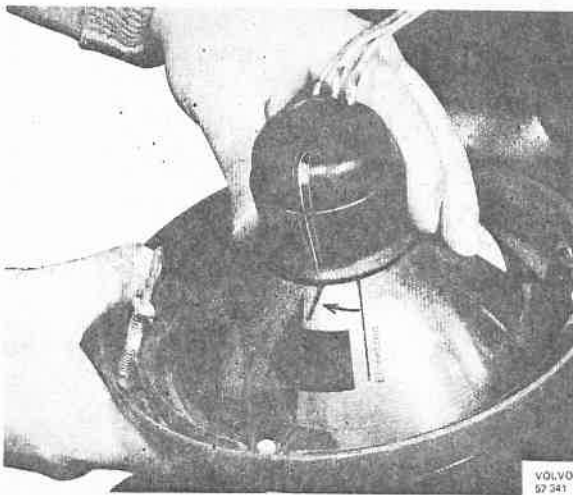

Fig. 35-6. Securing the bulb holder
9. Secure the holder by turning it to the marking "Fest", Fig. 35-6.